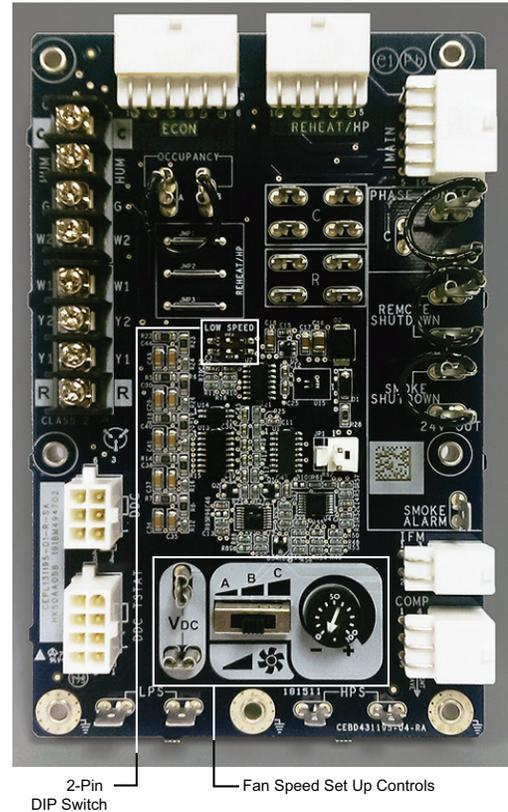

Fig. 7 — UCB Fan Speed Controls - 3-Phase Units
The Fan Speed set up controls are located on the lower section of the Unit Control Board (UCB). See Fig. 7 for location on 3 phase voltage units or Fig. 8 for location on single phase voltage units.
The 2-pin DIP switch is common to both the single and 3 phase unit control boards (see Fig. 7 and 8). When replacing UCB, the board will be shipped as default without a low speed selected. To select correct low fan speed for 582K Ultra Low NOx, 3 to 5 ton units set both dip switches to “OFF” (0). See Table 1. The DIP switch positions can also be found on the unit's control label diagram.